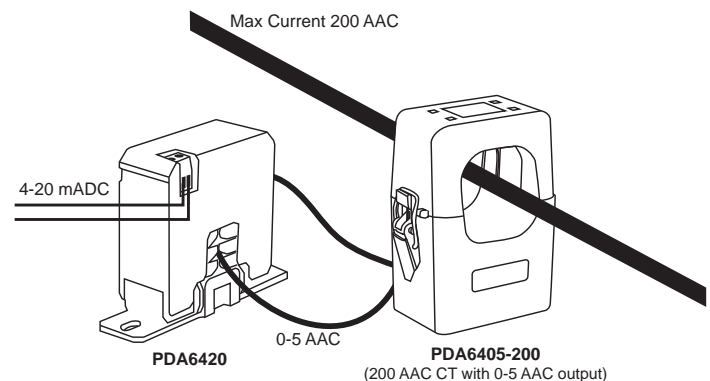

Figure 3: PDA6405-200 stepping down 135 AAC to 5 AAC and sending that signal to PDA6420 Current Transducer where it is converted to 4-20 mA signal
1. Use the appropriate Precision Digital Model PDA6405 5 A Current Transformer to reduce the current passing through the PDA6420 Current Transducer. (Figure 3)